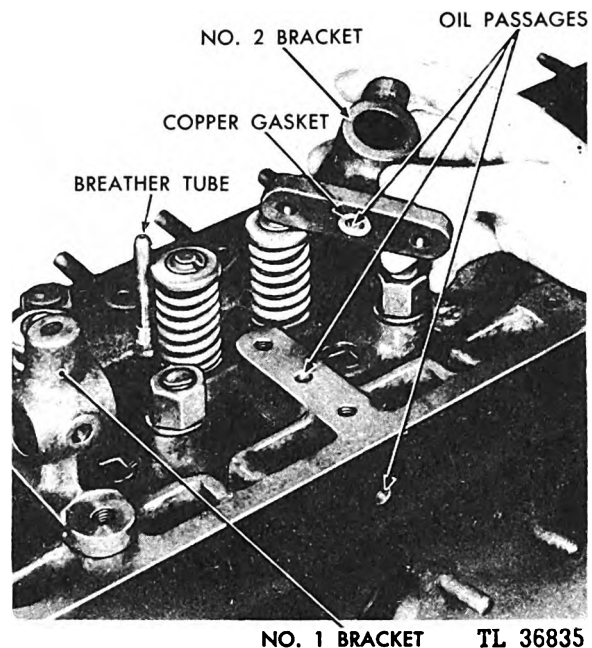
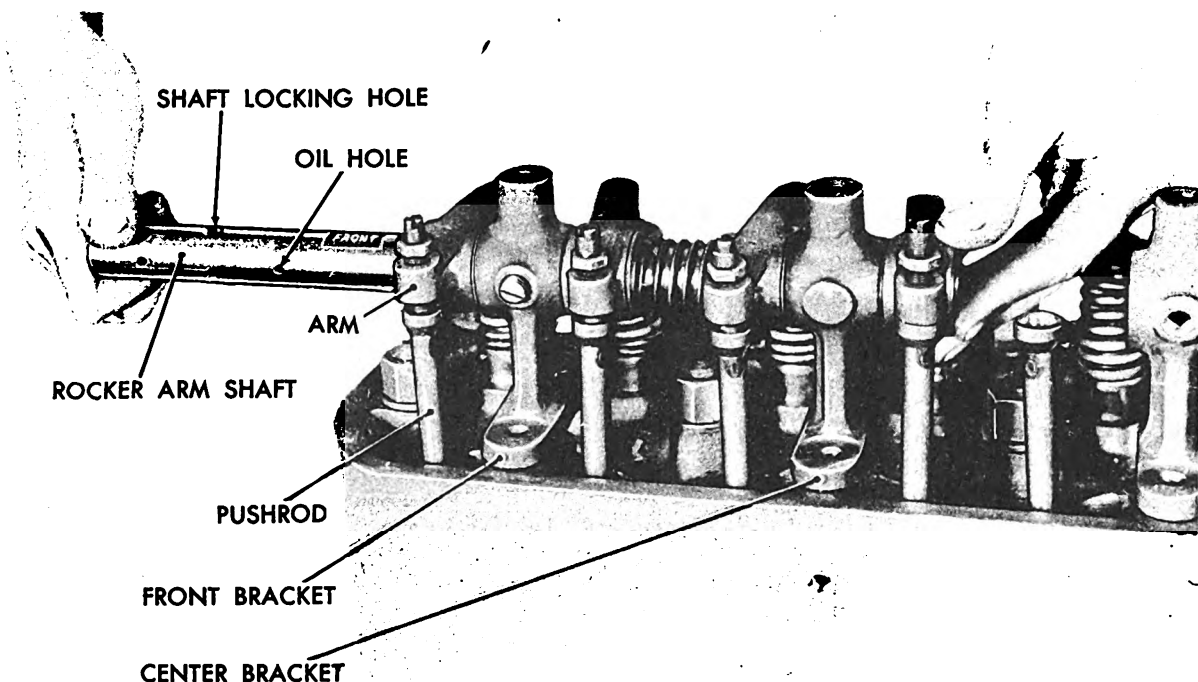
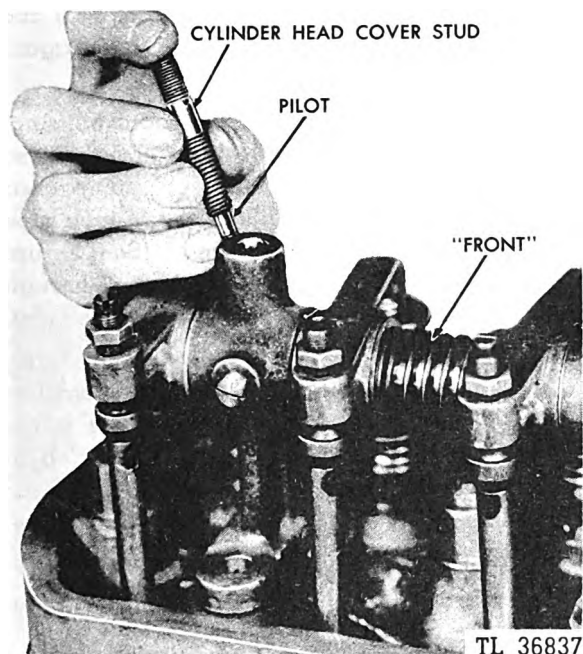

Fig. 183. Installing No. 2 Rocker Arm Bracket
Fig. 184. Installing Rocker Arm Shaft, Brass Washers and Springs
Fig. 185. Installing Cylinder Head Cover Stud
(2) Set the No. 2 rocker arm bracket on the head, making sure that the copper asbestos gasket is in place in the drilled oil passage in the bracket. (See Figure 183.) Start the capscrew on the spring side of the rocker arm bracket, but do not tighten.
(3) Install the No. 3 rocker arm bracket in the same manner as (1).
(4) Install the push rods.
(5) Install the rocker arm shaft, rocker arms, brass washers and springs as shown in Figure 184.
**NOTE:** There is a brass washer on each side of the rocker arms and one on each side of the spring. The word "front" is stamped on the front rocker arm shaft. Install the shaft so that the word "front" is visible between No. 2 and No. 3 rocker arms through the spring coil. (See Figure 185.)
**NOTE:** The pilot hole in the rocker arm is for the cylinder head cover stud pilot. This hole should line up with the tapped hole in the No. 1 bracket. (See Figure 184 and also Figure 185.) Install the cylinder head cover stud.